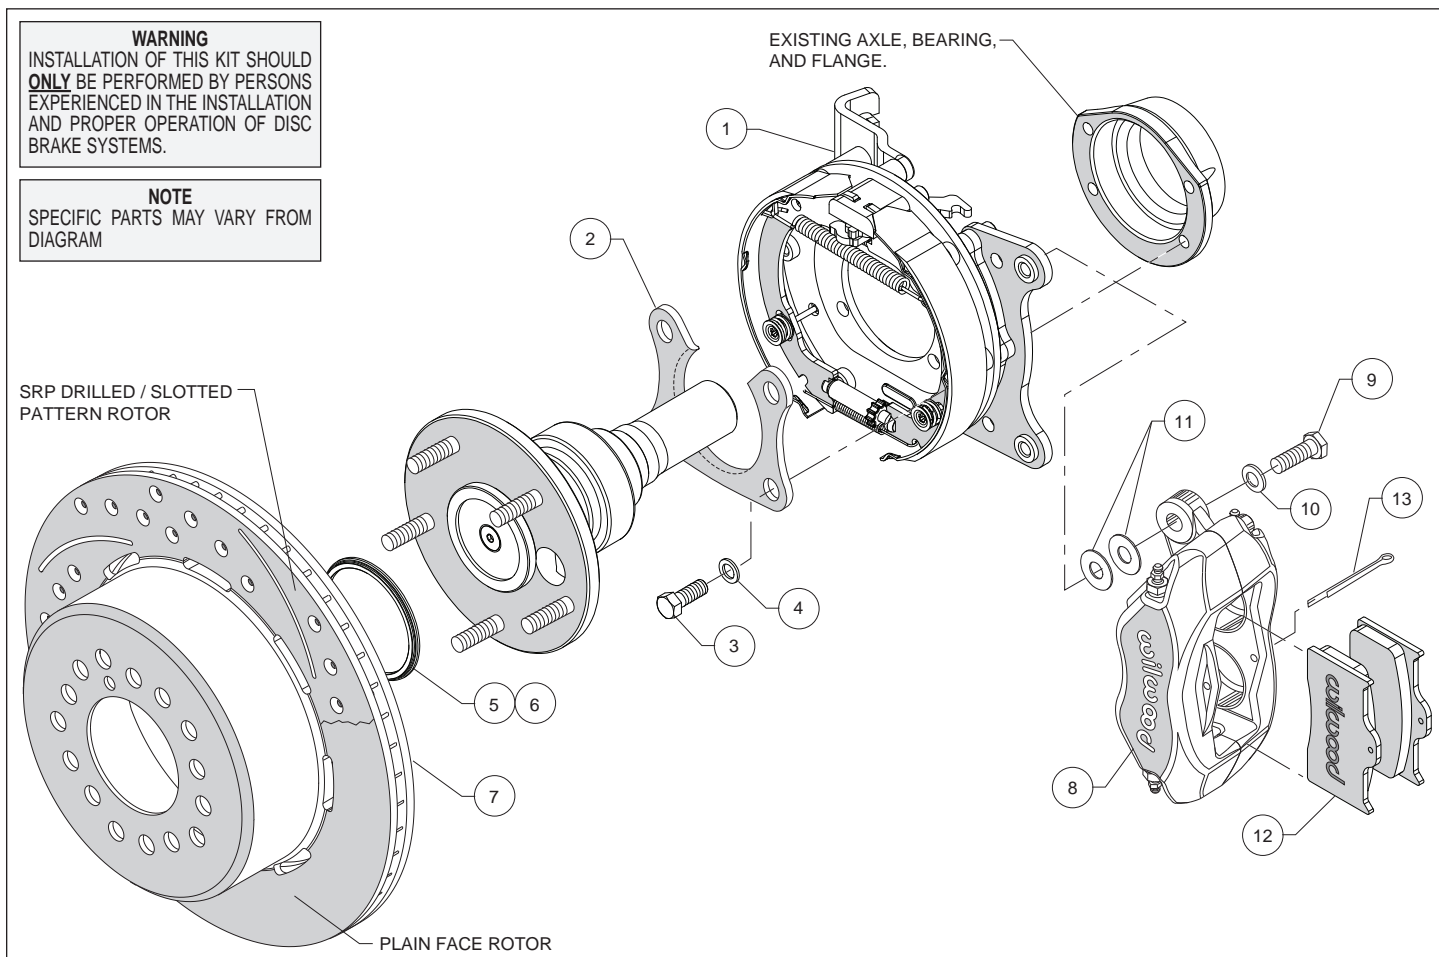
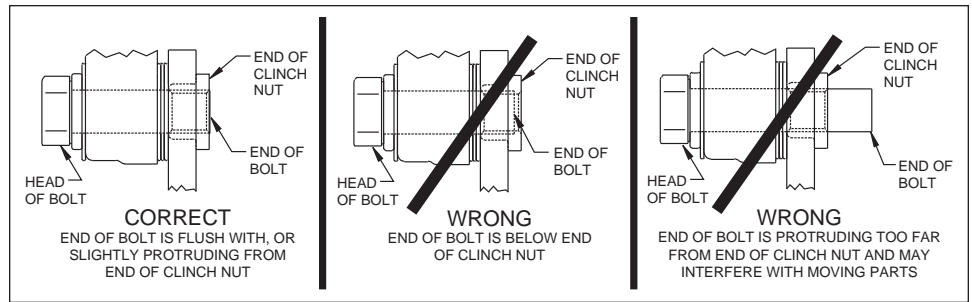

Figure 1. Typical Installation Configuration
Figure 5. Clinch Nut Engagement Diagram
Assembly Instructions (numbers in parenthesis refer to the parts list, and Figure 1 on the preceding pages): **CAUTION:** All mounting bolts must fully engage clinch nuts. Be sure to check that all bolts are either flush or protruding through flanged side of clinch nut after shimming, Figure 5.
- Orient the bracket assembly (1) as shown in Figure 1 and Photo 1 and slide it onto the axle. Insert the axle and bracket into the axle housing. Ensure that the bracket assembly backing plate fits flush against the axle housing flange.
- Install the bearing retainer (2) with the opening pointing upward and the lip facing inward (toward the bearing), as shown in Figures 1 and 4, and Photo 2. Secure retainer and bracket assembly to the axle housing flange using bolts (3) and washers (4), Figure 1. Apply red *Loctite*® 271 to the bolt threads and torque to 40 ft-lb.
•Slide the rotor registration adapter (5 or 6, depending on which axle is being used) onto the axle register on the axle flange with the smaller O.D. facing toward the rotor/hat (7), Photo 3. Align the correct hole pattern in the rotor/hat with the stud pattern on the axle flange and slide into place, Figure 1 and Photo 4. **NOTE:** The rotor/hat must fit flush against the axle flange or excessive rotor run out may result. Install three lug nuts (finger tight) to keep the rotor/hat assembly in place while continuing with the installation. **NOTE:** Some OEM and after market axles come with stud sizes larger than 0.50" diameter. Verify stud size and have a qualified machine shop drill the bolt circle of the hat/rotor to the correct stud size, if necessary.
•**NOTE:** Please reference the caution statement at the beginning of the assembly instructions. Mount the caliper (8) onto the caliper mounting bracket (1) using bolts (9) and washers (10), as shown in Figure 1. Initially place two .035" thick shims (11) on each bolt between the caliper and the bracket, Photo 5. Temporarily tighten the mounting bolts and view the rotor (7) through the top opening of the caliper. The rotor should be centered in the caliper, Photo 6. If not, adjust by adding or subtracting shims between the bracket and the caliper. Always use the same amount of shims on each of the two mounting bolts. **NOTE:** The end of each bolt must be flush with or slightly protruding from the head of the clinch nut, as shown in Figure 5. If necessary place spare shims between washer (10) and caliper mounting ear to achieve the proper clinch nut engagement. Once the caliper alignment and clinch nut engagement are correct, remove the bolts one at a time, apply red *Loctite*® 271 to bolt threads, and torque to 40 ft-lb.